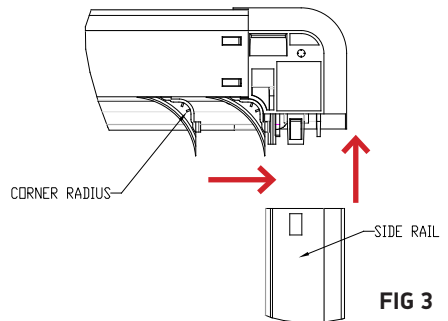

FIG 3
1. Place all parts on a flat surface arranged like in figure 3. Ensure internal corner radius mouldings are slid to the end of cassette rail.